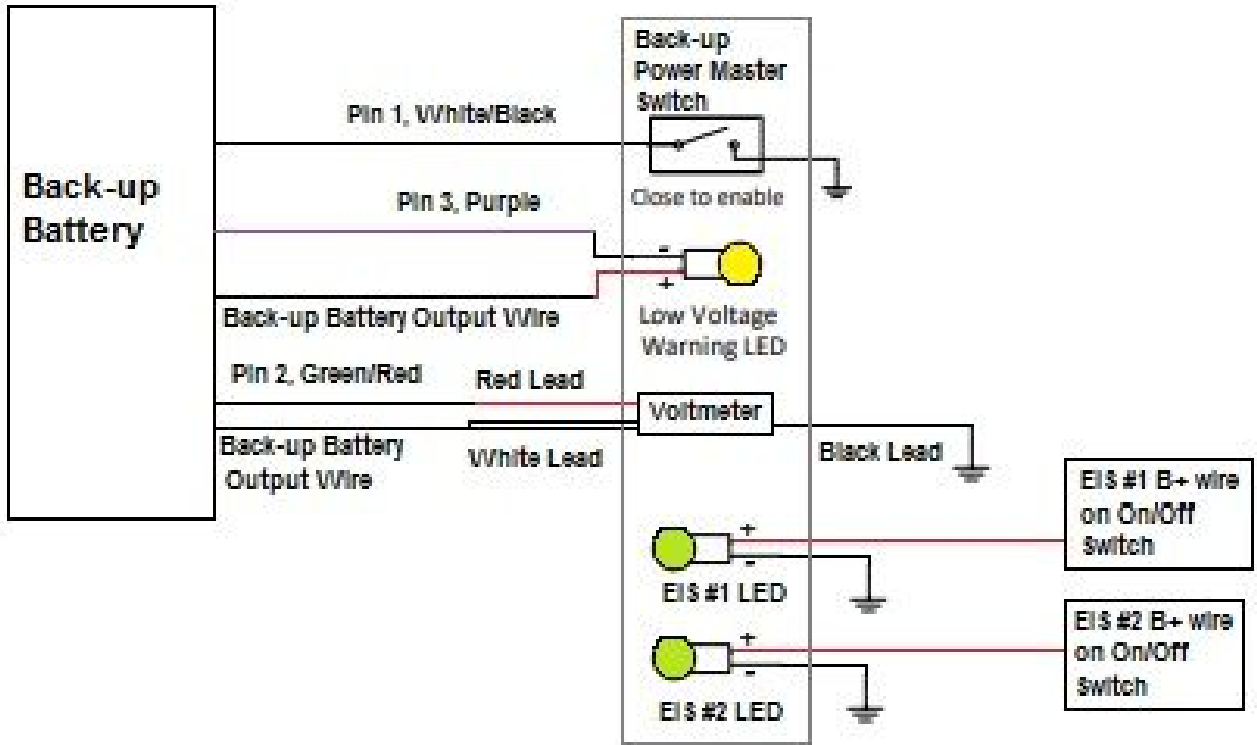

Figure 3: Wiring Connections for EIS Back-up Battery System Panel
**Note:** Figure 3 does not all connections shown for back-up battery of EISs. Refer to manufacturer instructions for those connections.